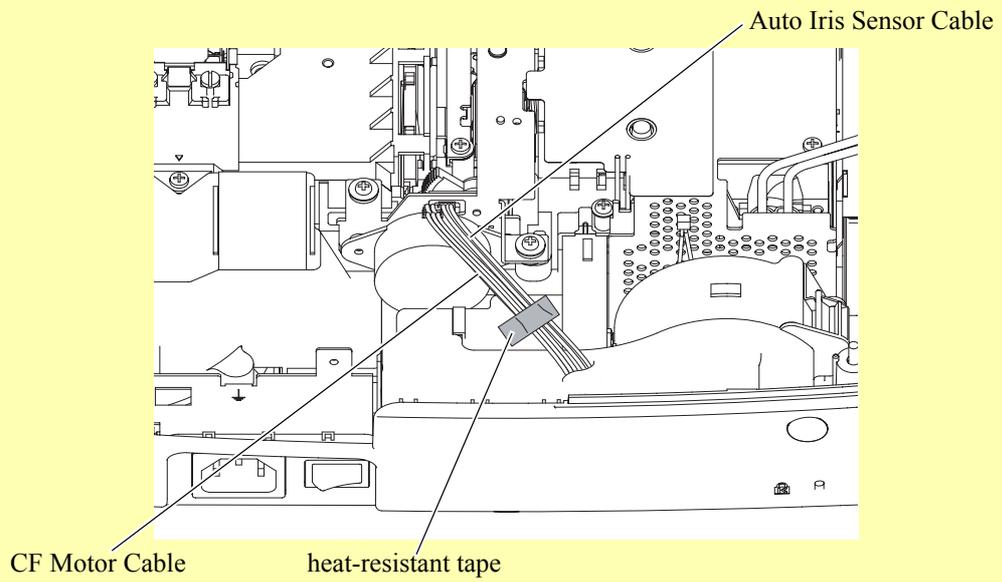

Figure 4-30.
- Secure the CF Motor Cable and Auto Iris Sensor Cable with heat-resistant tape as shown in Figure 4-30.